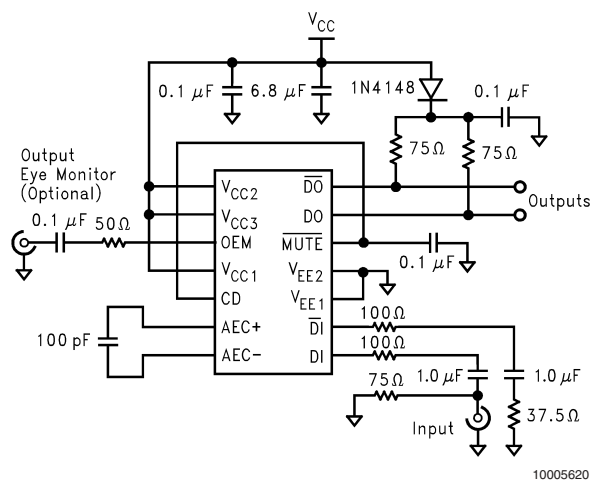

FIGURE 1. CLC014 Equalizer Application Circuit
Carrier Detect (CD) is a CMOS output that indicates the presence of equalized data from the filter. This CD output can be connected to $\overline{\text{MUTE}}$ to suspend changes in the data outputs DO and D0-bar, if no valid signal exists. This simple configuration prevents random output transitions due to noise. For sparse transition patterns it is recommended that a capacitor be connected to CD as shown in Figure 1.
The OEM is a high-speed, buffered output for monitoring the equalized eye pattern prior to the output comparator. Its output is designed to drive an AC-coupled 50 ohm coaxial cable with a series 50 ohm backmatch resistor. The cable should be terminated with 50 ohm at the oscilloscope. Figure 1 shows a schematic with a typical connection.
The CLC014 operates from either +5V or -5.2V single supplies. Refer to *Figure 1* when operating the part from +5V. When operating with a -5.2V supply, the V_{EE} pins should be bypassed to ground. The evaluation board and associated literature provide for operation from either supply.